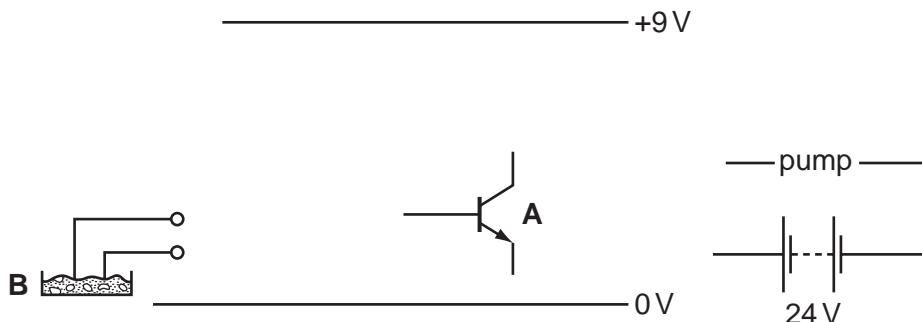

Fig. 6
- 11** Fig. 6 shows an incomplete circuit for controlling a greenhouse plant watering system.